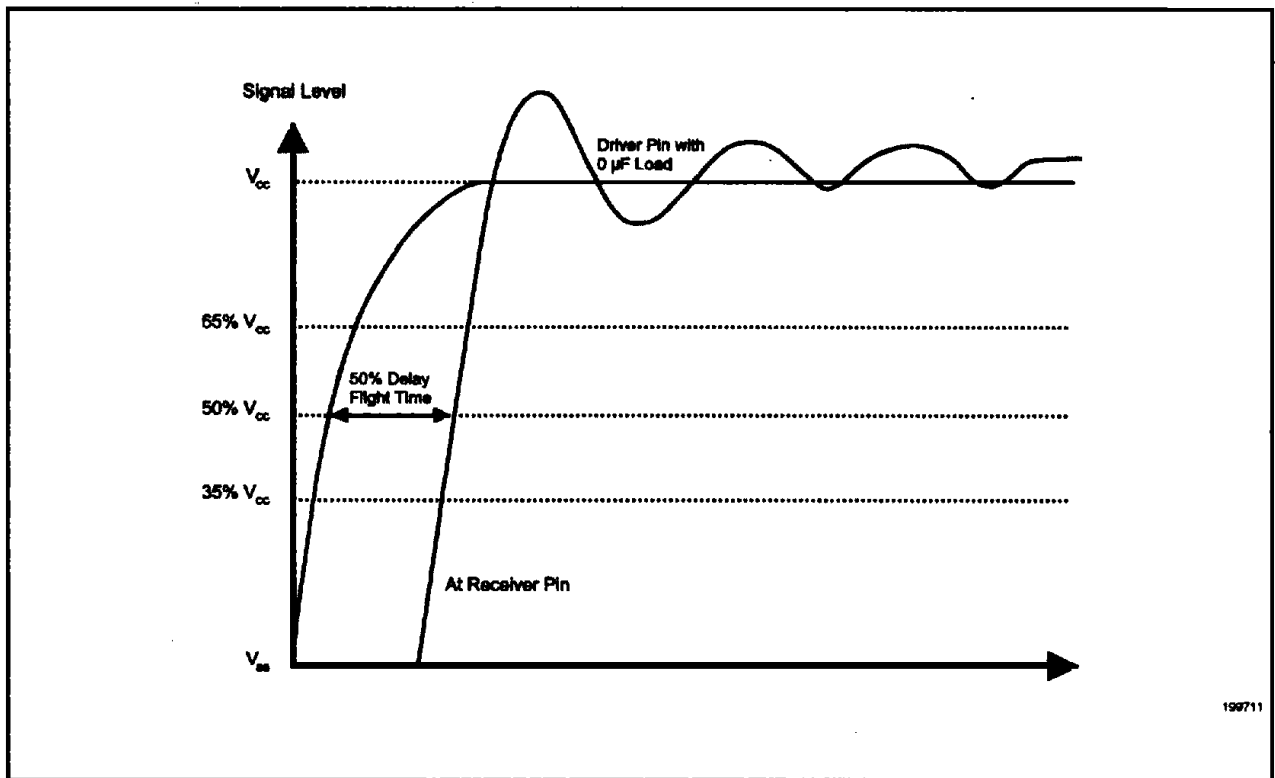

Figure 11. 50%  $V_{cc}$  Measurement of Flight Time
29. This is a flight time specification, that includes both flight time and clock skew. The flight time is the time from where the unloaded driver crosses 1.5V (50% of min  $V_{CC}$ ), to where the receiver crosses the 1.5V level (50% of min  $V_{CC}$ ). See Figure 11.